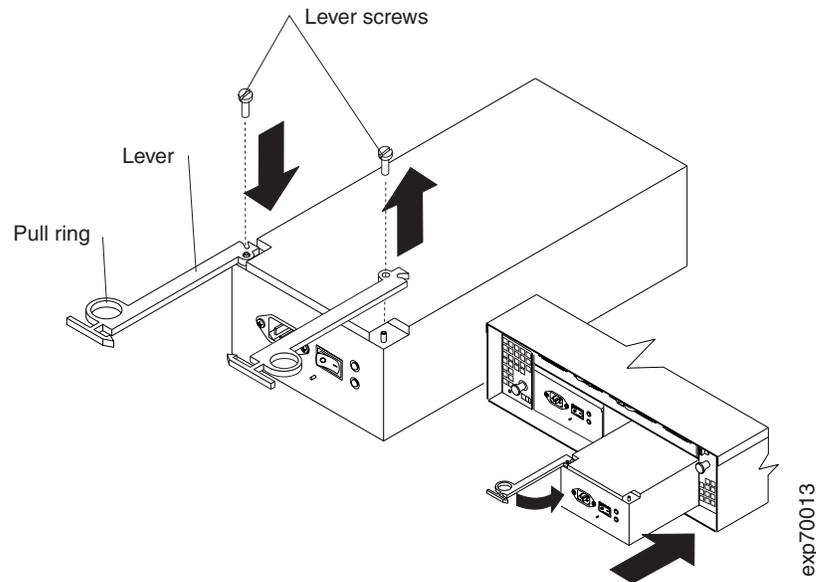

Figure 56. Moving the power-supply lever and replacing the failed hot-swap power supply
Note: When you replace the failed power supply, ensure that the new power-supply lever is attached to the side of the power supply that faces the middle of the expansion unit. If it is not, remove the lever screw, flip the lever over, and tighten the screw on the opposite side as shown in Figure 56 on page 71.
- a. Slide the power supply into the expansion unit. Be sure the lever is pulled straight out as you slide the power supply into the expansion unit (see Figure 56).